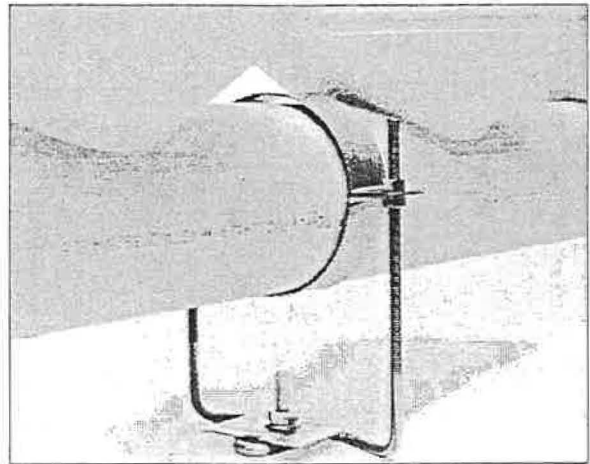

Figure 29
*The guide support will be loose around the pipe – this is a design feature. Do not attempt to wrap anything around the pipe to pull the clamps tight against the pipe. See Figure 29.*